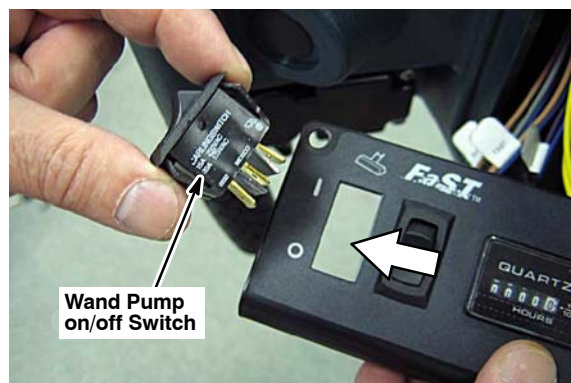

Fig. 8
13. Remove the lower switch panel and install the wand pump on/off switch as shown (Figure 8).